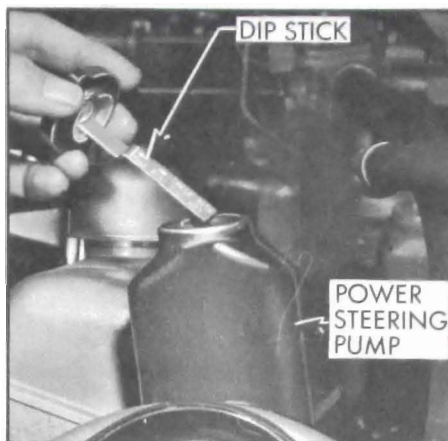

Figure 1-7—Power Steering Pump Reservoir
5. Power Steering Gear. Thoroughly clean dirt from reservoir cap on top of oil pump, then remove cap. Wipe dip stick and reinstall cap to check oil level. Add oil to maintain level between "FULL" and "ADD" marks on dip stick with system warmed up. See Figure 1-7.